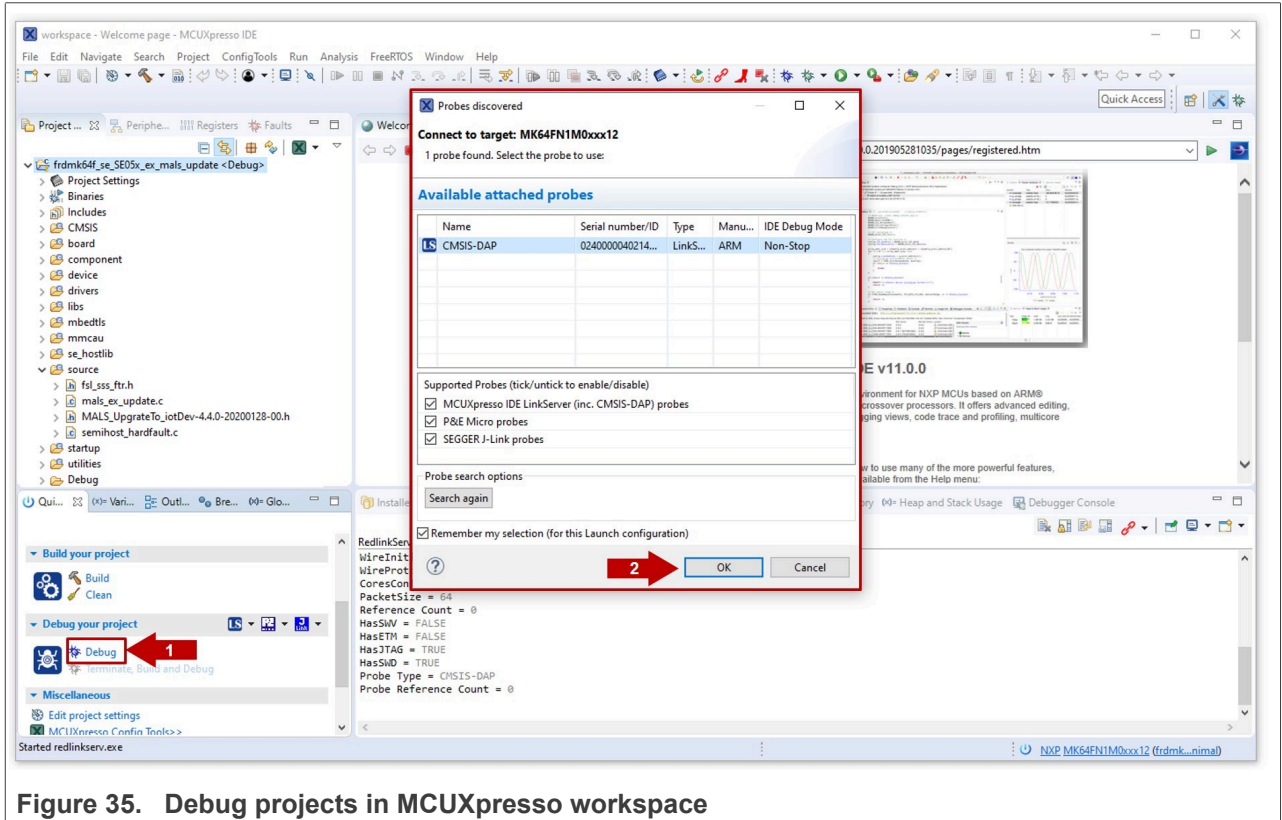

Figure 35. Debug projects in MCUXpresso workspace
- Go to the MCUXpresso Quickstart Panel and click the *Debug* button as shown in Figure 35. If there is more than one probe attached, you have to select CMSIS-DAP debug probe from the list. Wait a few seconds until the project starts the execution.